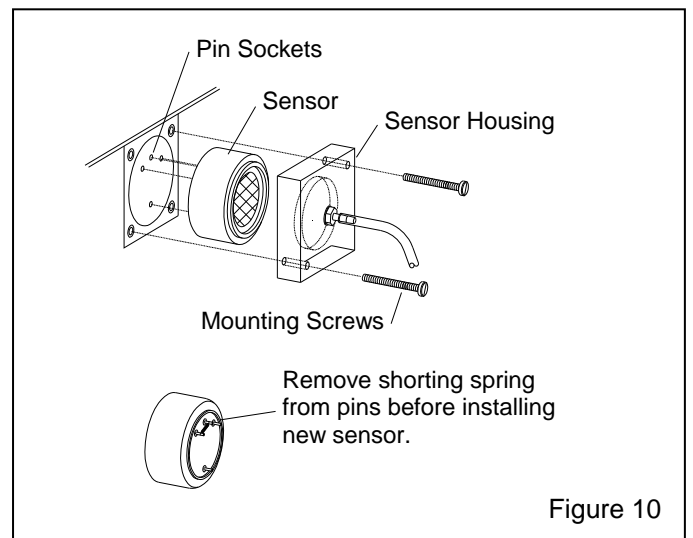

Figure 10
7.1.5 Locate the clear-plastic sensor housing, shown in Figure 10, and remove the mounting screws. The screws are easily removed Do not press hard against the screw heads; **excessive pressure could damage the circuit board.**
7.1.9 Handle the new sensor with care. Remove the shorting spring from the pins, as shown in Figure 10, and then plug the sensor into the sockets.